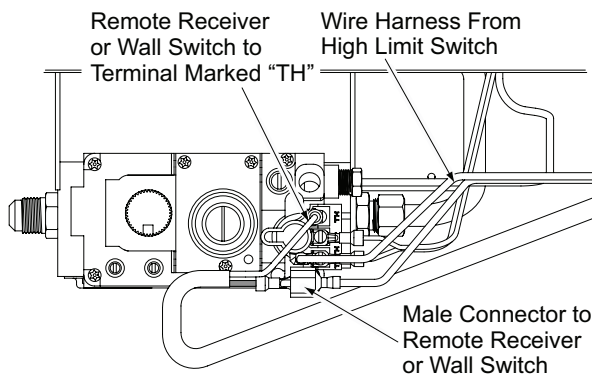

Figure 14 - Connecting Remote Receiver or Wall Switch to the Gas Control Valve
1. Connect one terminal of 15 foot wire from wall switch to male connector on high limit harness. Connect remaining wire terminal to TH terminal on valve. Make sure that wire terminals are in positions on unit as pictured in Figure 14. If wires are not connected as shown switch will not work.